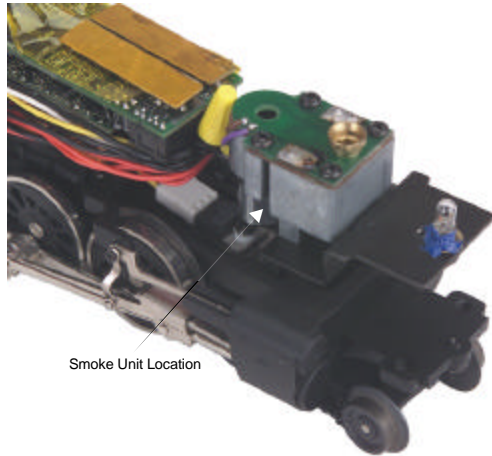

Figure 13
1. Once the boiler has been removed, locate the smoke unit assembly (see Figure 13).